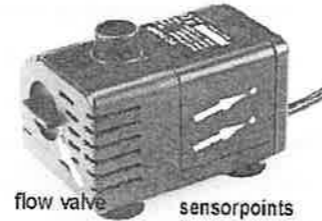

Figure 1
- 3) The pump has the built-in function of dry-run protection. The dry-run protection function is provided by two sensor points on one side of the pump housing (see Figure 1). The pump works if both of the points are submerged in water. If either or both points emerge out of water, the pump stops working.
- 4) The pump flow rate can be adjusted by the flow valve (refer to Figure 1).